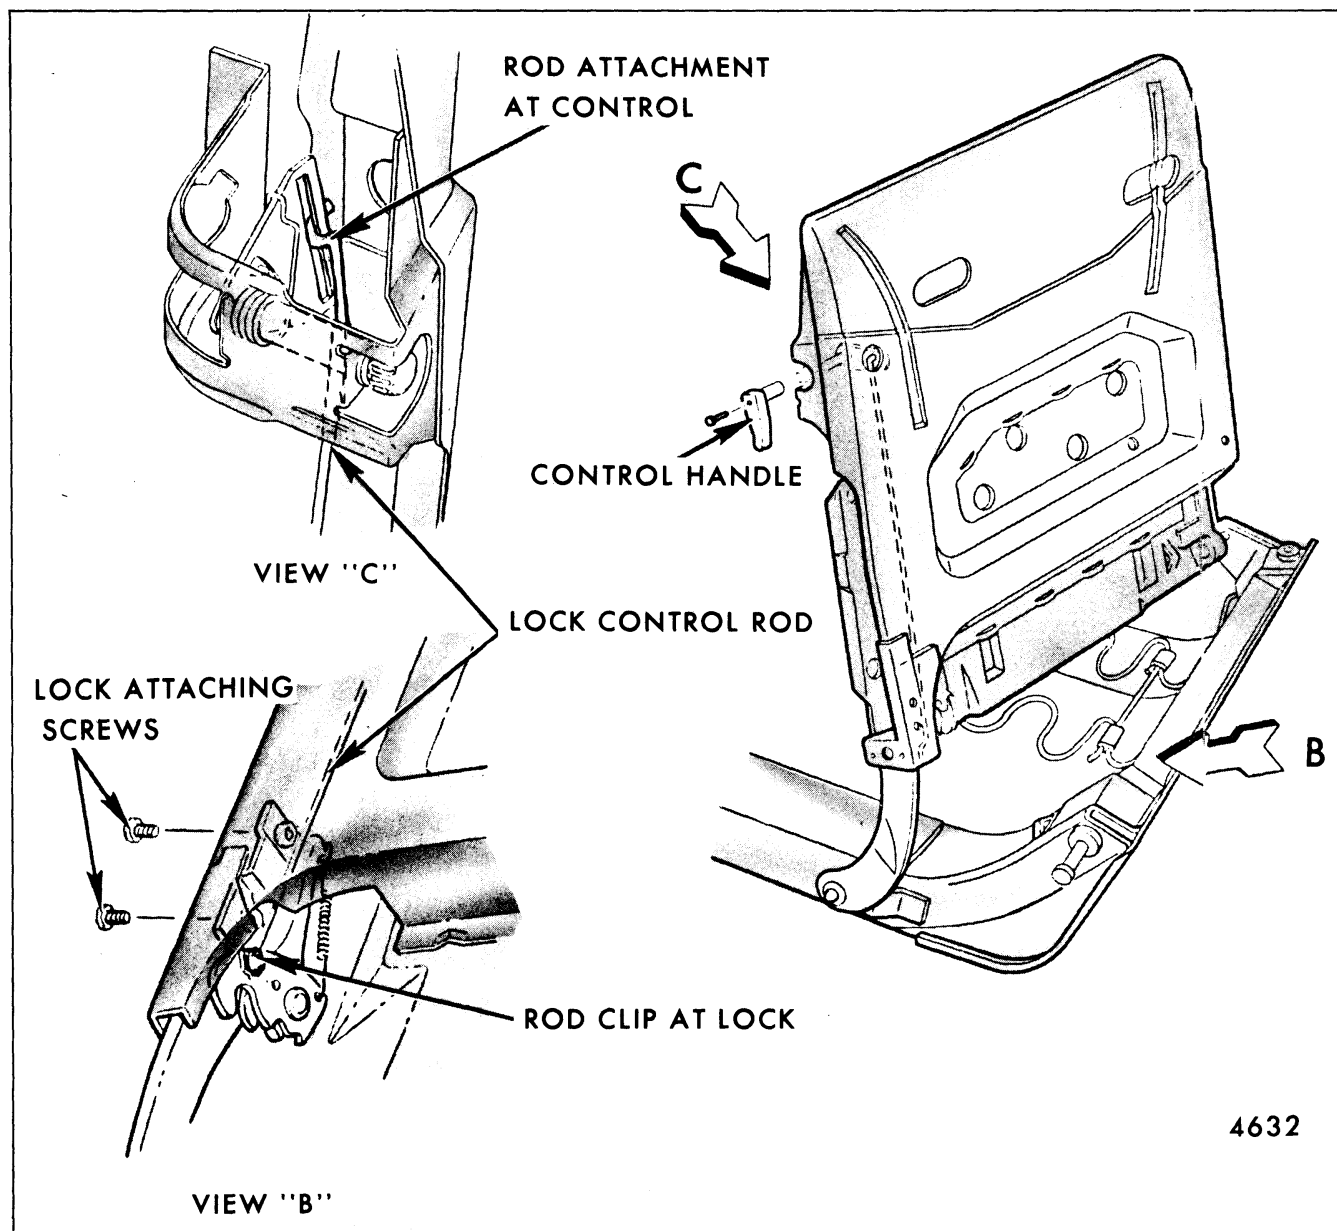
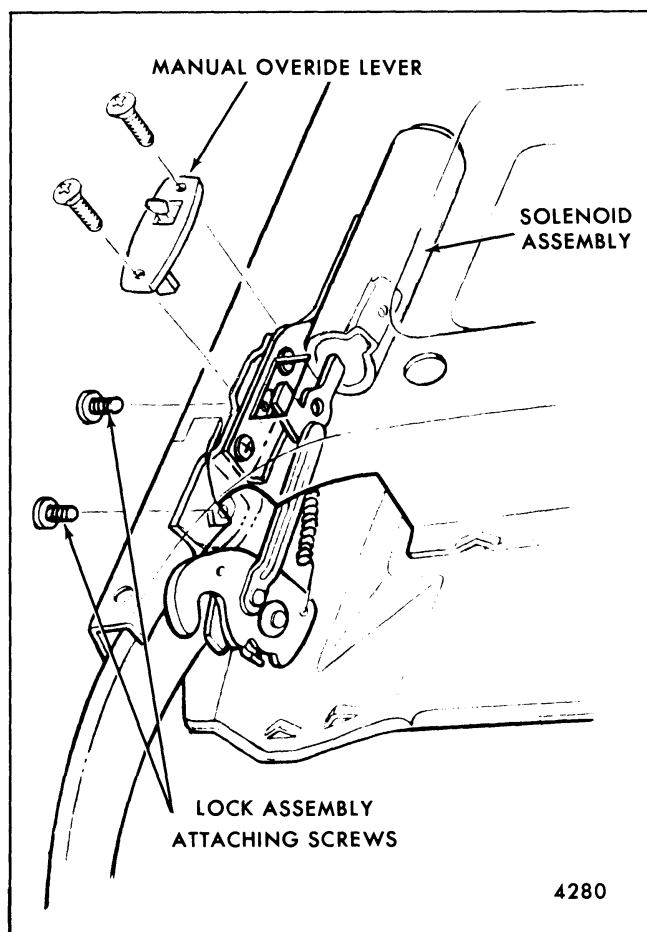

Fig. 9-43-Front Seat Back Manually Operated Lock - "B, C and E" Two-Door Styles, Full Width, 60-40 or 40-40 Seats
Fig. 9-44-Front Seat Back Electrically Operated Lock - "A, B and C" Two-Door Styles, Standard Full Width Seat
5. Remove hog rings securing seat back front and rear trim facings and foam pad facing along bottom of seat back; then, turn up trim and carefully pull out foam pad sufficiently to gain access to lock attaching bolts (Fig. 9-43 or 9-44).
6. On manually operated seat back lock, disengage lock connecting rod clip (Fig. 9-43) and detach rod from lock. On electrically operated seat back lock, disconnect feed connector from lock solenoid.
7. Remove seat back lock attaching bolts (Fig. 9-43 for manual lock, Fig. 9-44 for electric lock); then, remove lock assembly from seat back.
4. To remove seat back lock to control connecting rod, disengage rod clip at lock (Fig. 9-43, View "B"); then rotate rod counterclockwise on drivers seat back of clockwise on passengers seat back to disengage hooked upper end of rod from slot in control plate and remove connecting rod (see Fig. 9-43).